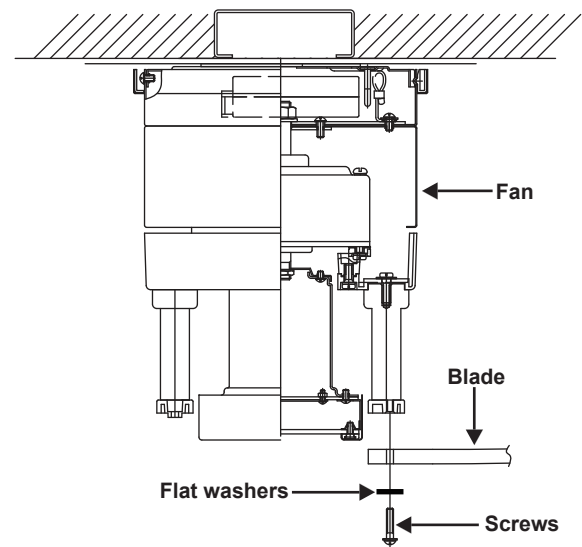

Figure 13
3. Place the key holes on the LED light kit over the 2 screws previously loosened from the mounting plate, turn LED light kit until it locks in place at the narrow section of the key holes. Secure by tightening the 2 screws previously loosened and the one previously removed. (Fig. 13)
1. Align the two small circular holes on blade with the holes on bottom of the fan, secure by tightening the two screws with lock washers and flat washers provided as shown in Figure 13. Repeat for the remaining blades.